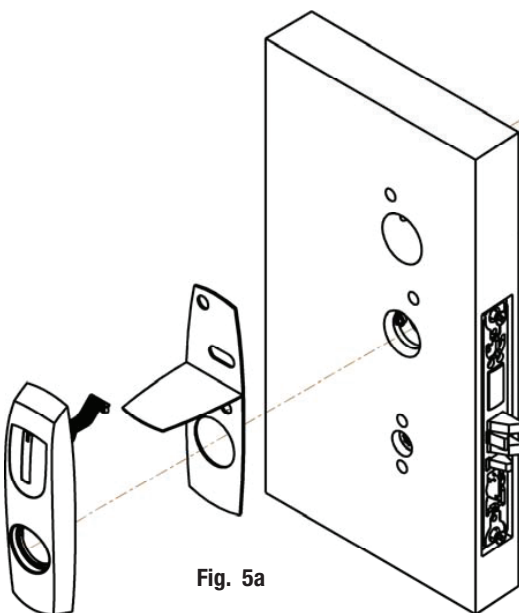

Fig. 5a
- Feed wires through mounting plate as shown (Fig. 5a).
- Insert (2) #8 x 1-3/4" flat head screws finger tight into pre-drilled 1/8" diameter holes (Fig. 5a).